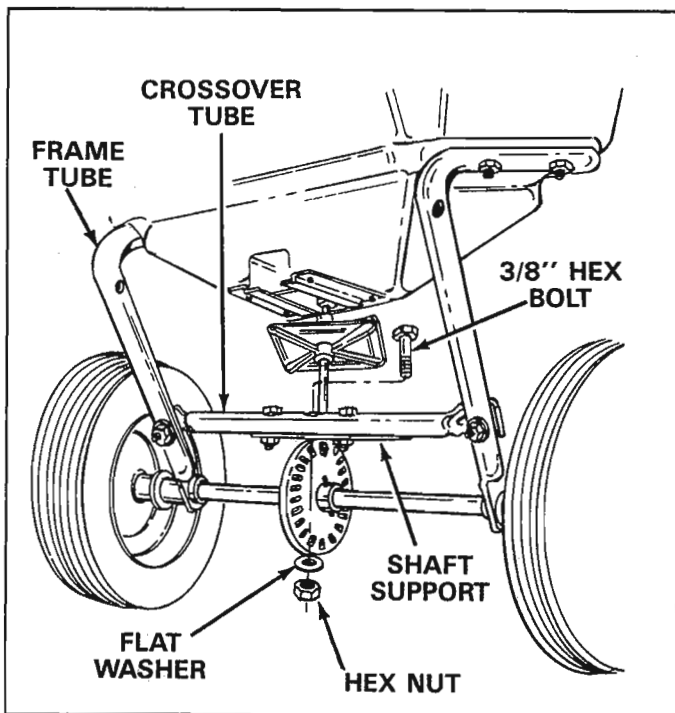

FIGURE 7
- Remove the 3/8" hex bolt, flat washer and hex lock nut from the center of the crossover tube. See figure 7.
- Place the handle tube (long) on the crossover tube, align the holes in hitch tube, crossover tube and shaft support, assemble with 3/8" hex bolt, flat washer and hex nut, removed in step 8. See figures 7 and 8. **MAKE ONLY FINGER TIGHT AT THIS TIME.**